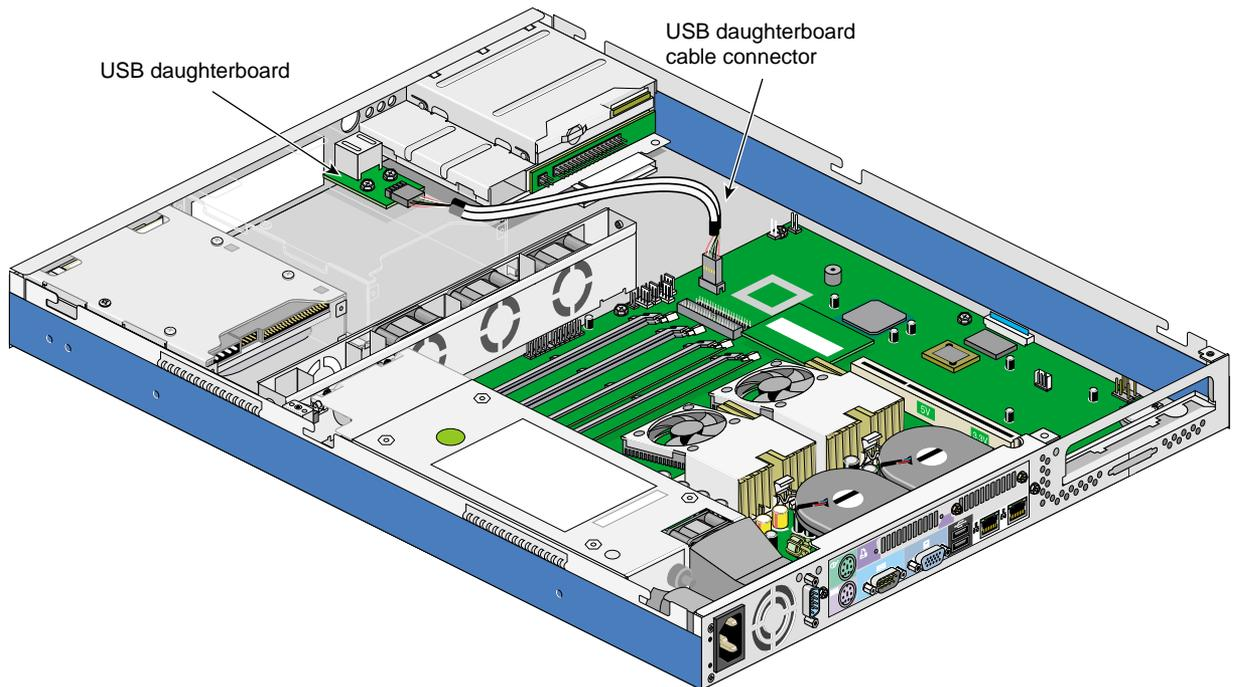

Figure 2-20 Location of the USB Daughterboard Cable Connector
2. Disconnect the USB daughterboard cable connector from the system board. See Figure 2-20 for the location of the USB daughterboard cable connector.
2. Connect the USB daughterboard cable connector to the system board connector CN30. See Figure 2-20 for the location of the USB daughterboard cable connector.